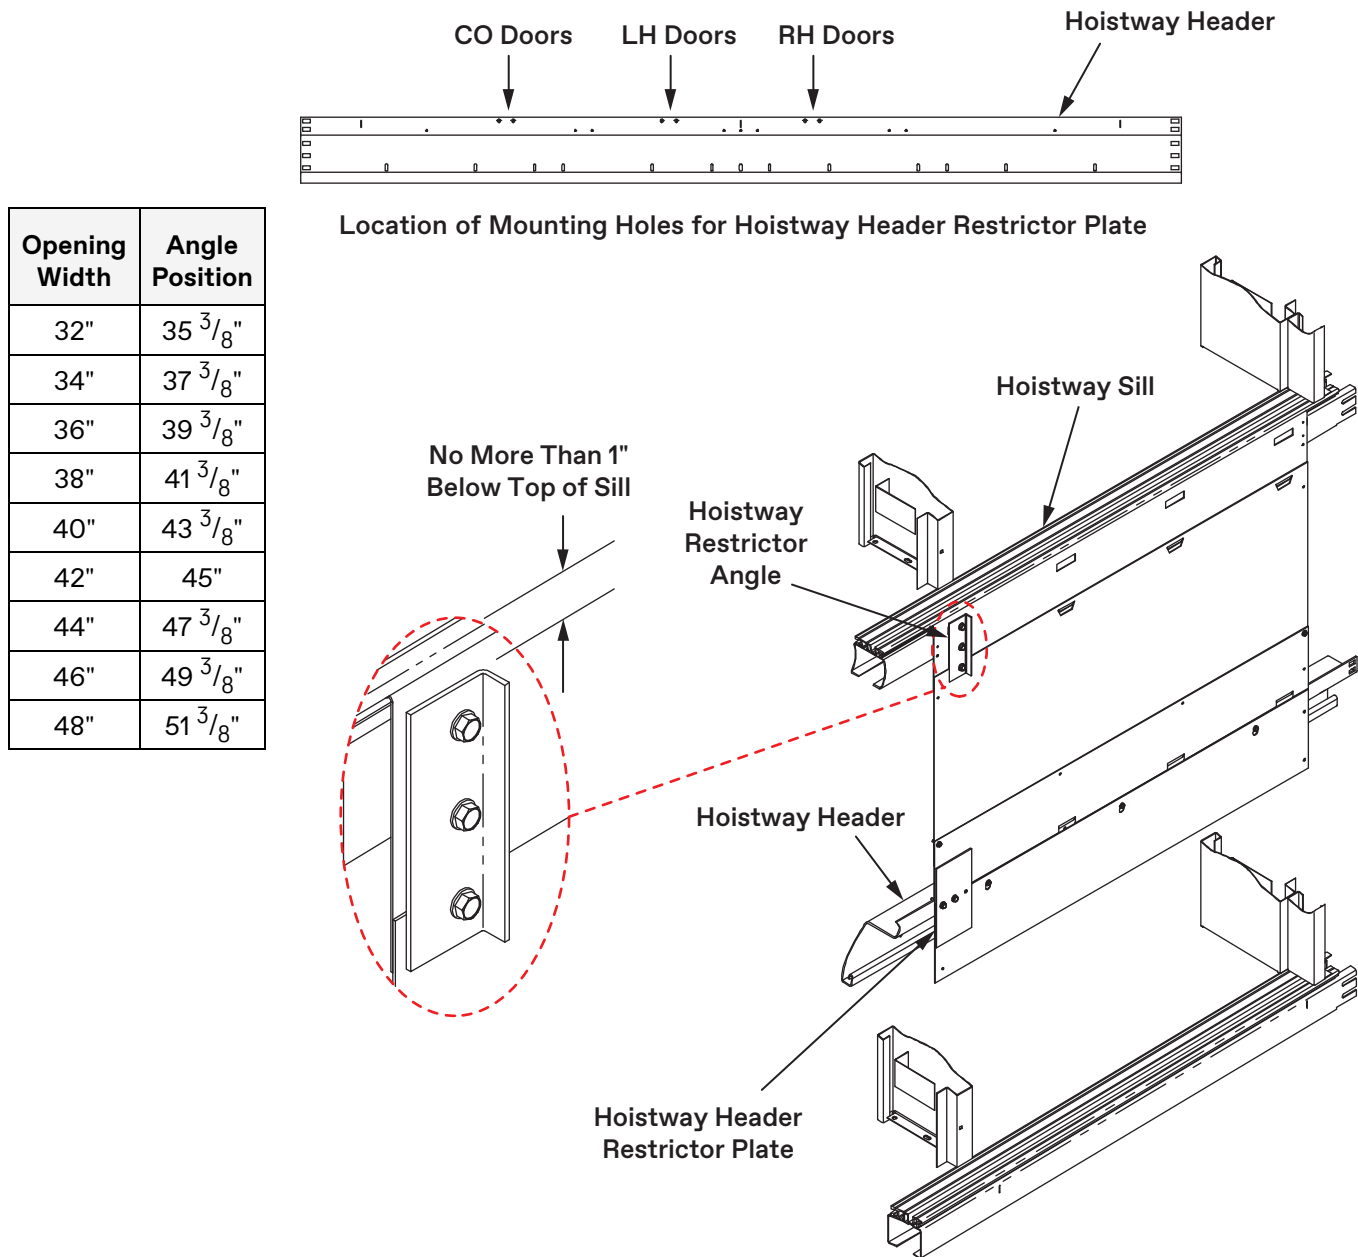

Figure 16 - Hoistway Restrictor Angle Positions
1. Mark the position of the hoistway restrictor angle. See Figure 16.